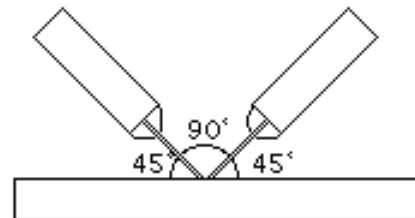

Figure 5
13.1.2 Measure the inductance by conducting the four terminal probe on the gold plated copper plate as shown in Figure 5.